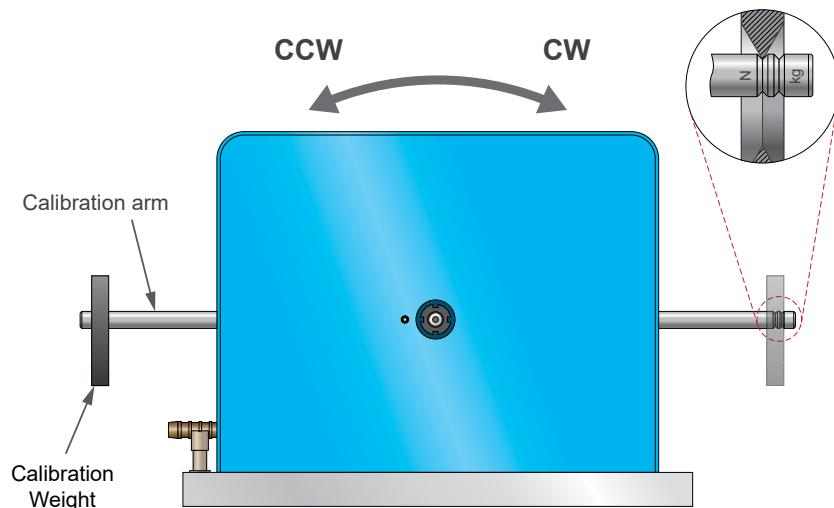

Fig.7-6 Identify the calibration direction
On your WB 32 dynamometer, identify the clockwise and counterclockwise sides (see Fig.7-6).
8. Identify the clockwise and counterclockwise sides (see *Fig.7.6*)